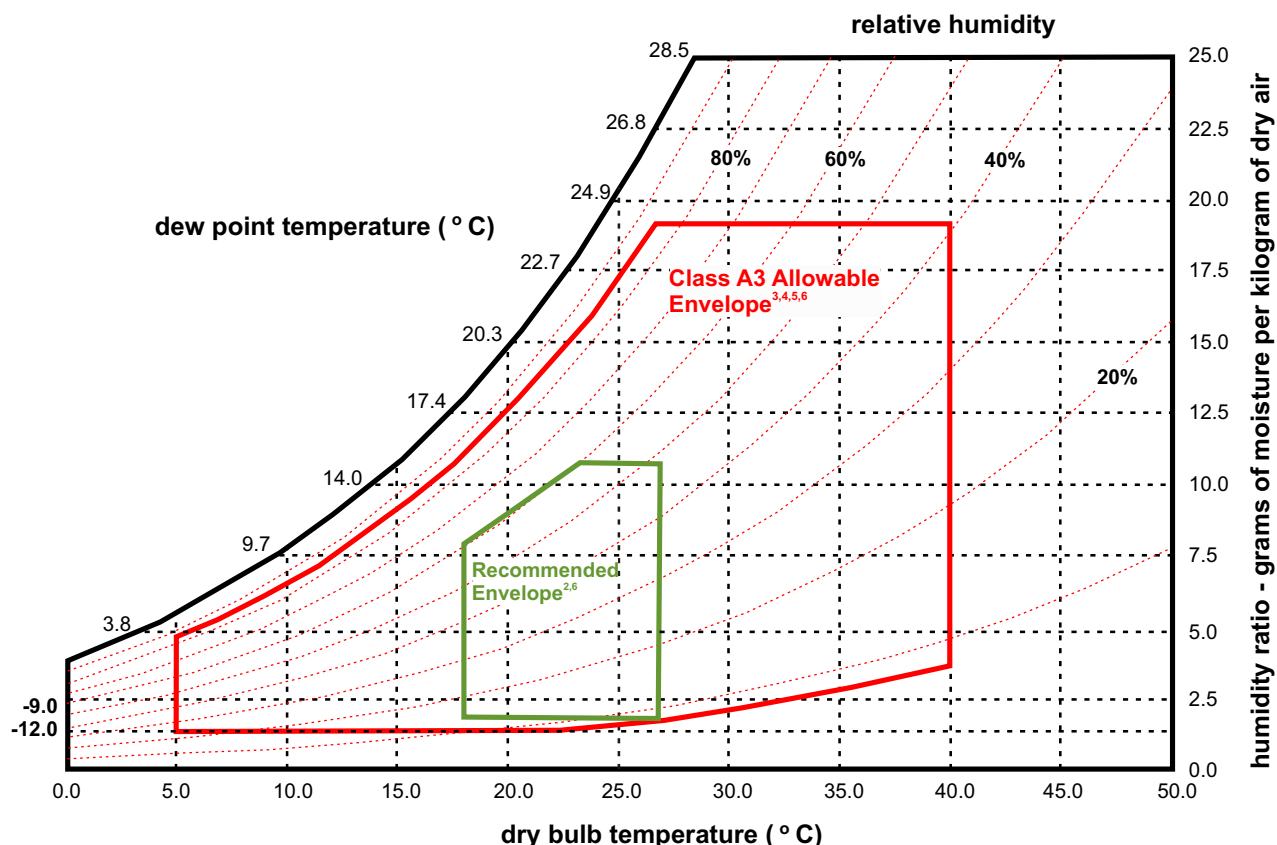

Figure 1. Environmental operating specifications - line graph format
4. The minimum humidity level is the larger absolute humidity of the -12°C (10.4°F) dew point and the 8% relative humidity. These intersect at approximately 25°C (77°F). Below this intersection the dew point (-12°C) represents the minimum moisture level, while above it, the relative humidity (8%) is the minimum. See Figure 1 on page 32 for a graphical explanation of the envelope.
Figure 1 on page 32 shows the environmental specifications in **line graph** format.